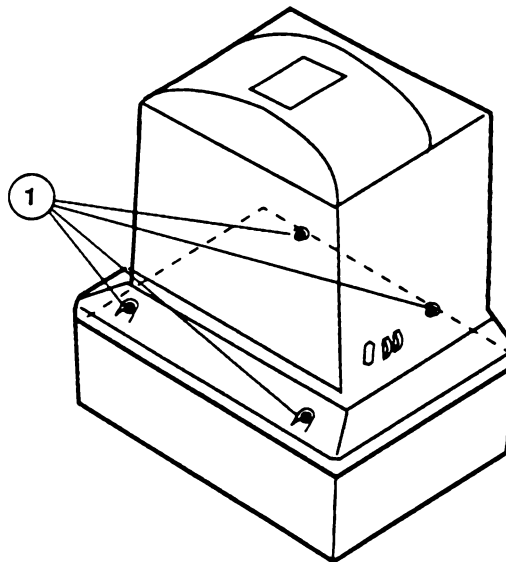

FIGURE 1
4. Remove the four screws (Figure 1, #1) from the rear of the monitor.
4. Carefully position the monitor face down, and install the four screws (Figure 1, #1) at the back of the monitor.